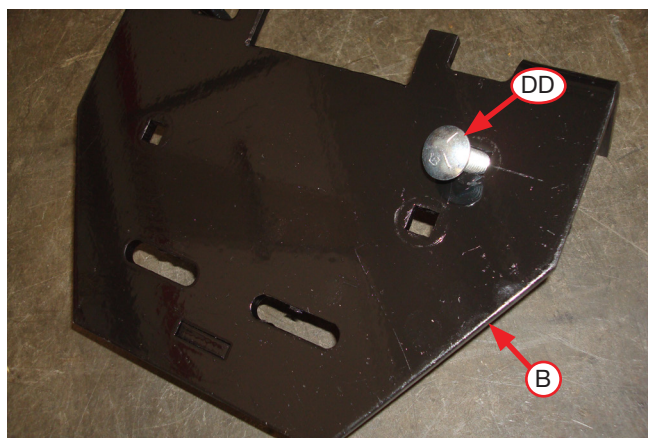
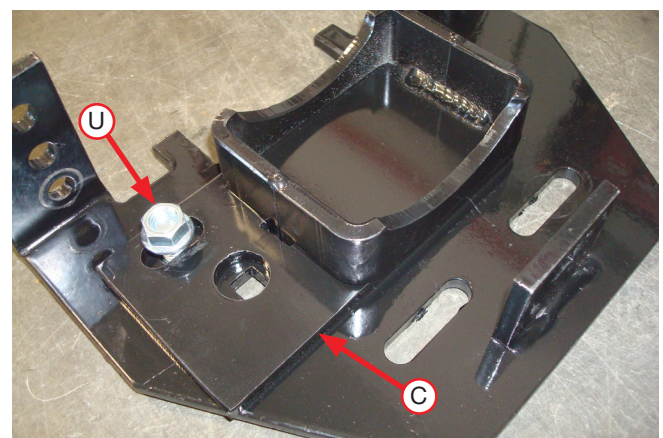

Fig. 10
Fig. 11
4. Insert a 3/8"-16 X 1.00" carriage bolt (DD) through the top of the lower bracket (B) as shown in Fig. 10. Flip the assembly over and set the lower bracket cup (C) onto the lower bracket and over the carriage bolt (Fig. 11). Cap with 3/8"-16 serrated flange lock nut (U) and snug the nut only. Leave loose enough for the bracket to move freely in the slot.